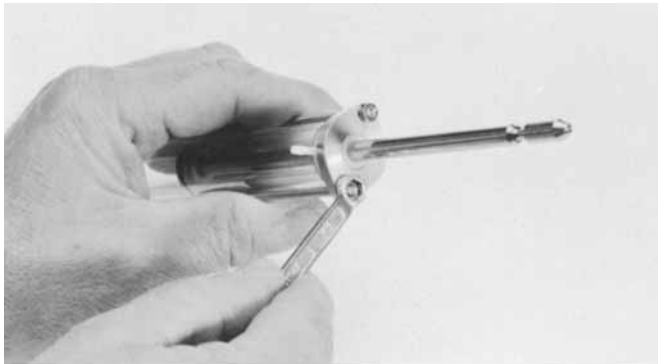

Fig 13. Unscrewing the nuts from the support rods.
10. Unscrew the M3 nuts from the support rods (see Fig 13). Carefully remove the glass cylinder together with the end piece and gently pull out the piston.